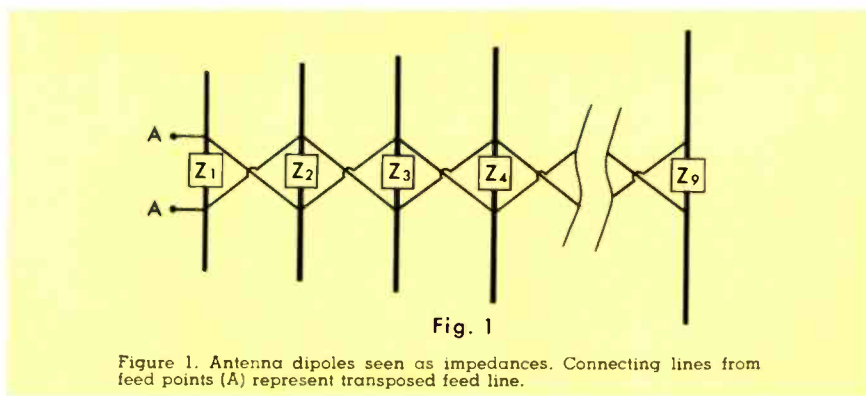

Figure 1. Antenna dipoles seen as impedances. Connecting lines from feed points (A) represent transposed feed line.
In Figure 1, each element is represented by an impedance at a particular frequency. We will assume that a signal of Channel 2 frequency is supplied to the input terminals (A). If the impedance Z_1 is very small in value compared to the transmission line impedance, substantially all the unreflected signal will be absorbed in Z_1 , the first antenna element. As a result, all antenna elements further along the transmission feed line will be substantially ineffective. The same is true for the other successive impedances.